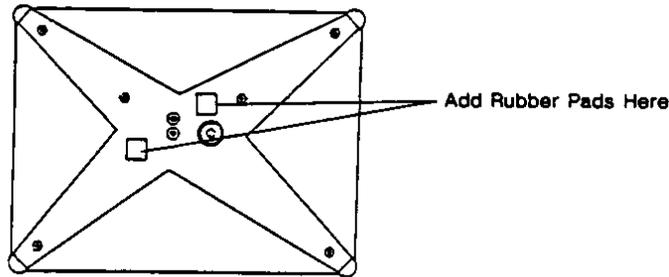

Figure 3
5.4.2.9 Install two rubber pads on the scale spider where show in Figure 3.